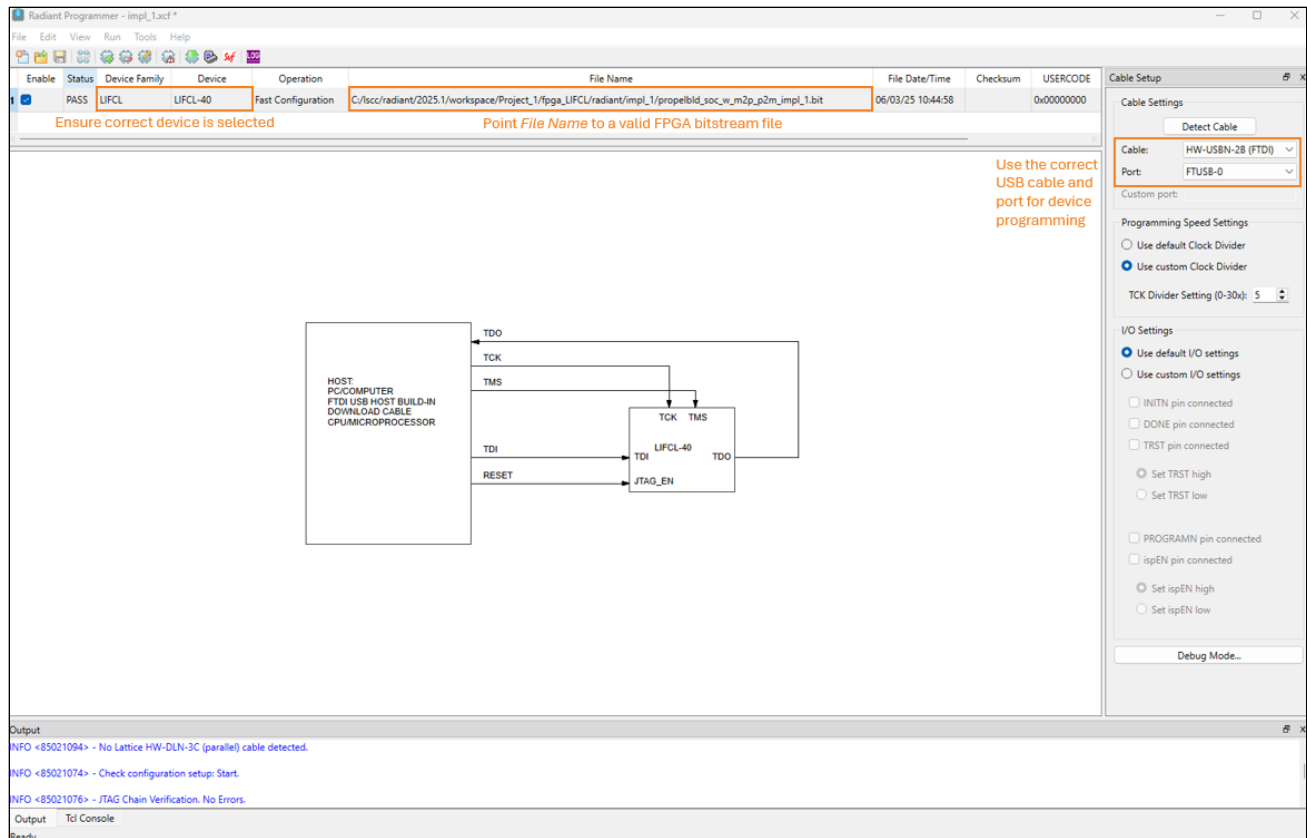

Figure 8.4. The Lattice Radiant Programmer Setup
3. Launch and set up the Lattice Radiant Programmer as shown in Figure 8.4.